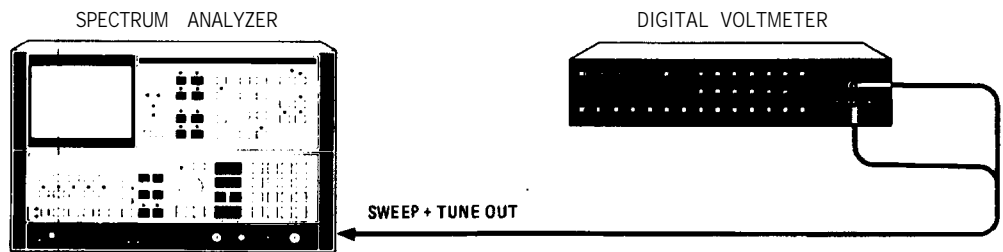

Figure 2-34. Sweep + Tune Out Accuracy Test Setup
2. Connect digital voltmeter to the SWEEP + TUNE OUT auxiliary output on the rear panel of the analyzer as indicated in Figure 2-34.